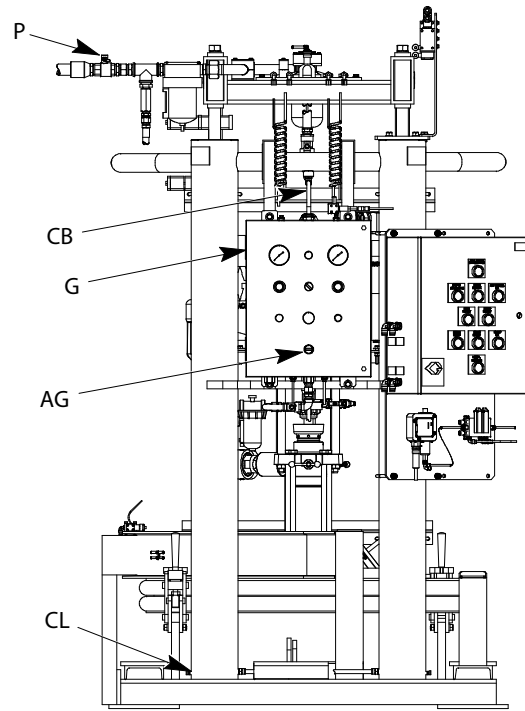

FIG. 16
1. Close the Main Air Shutoff Valve (P). See FIG. 16.
3. Press the BULK SUPPLY DEPRESSURIZATION Pushbutton on the Junction Box Panel (H).
4. After the pressure is relieved from the Follower Plate (D), raise the Follower Plate by setting the RAM POSITION Switch (AG) to the RAISE position.
3. Once both safety hitch pins (806) are secured, turn off all air to the system by closing the Main Air Shutoff Valve on the header (P) and follow your facility's pre-established lock-out/tag-out procedures. See FIG. 16 on page 36.